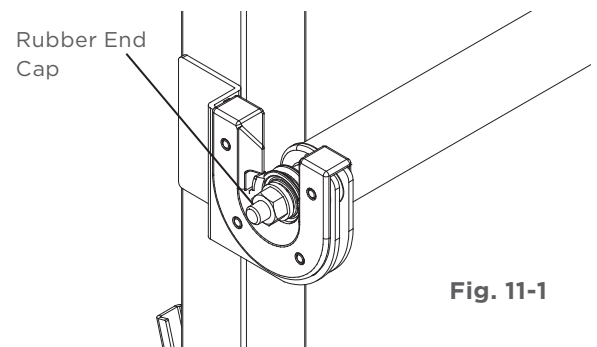

Fig. 11-1
11-1: Slide one (1) rubber end cap onto the end of each bolt sticking out of the pole ends, as shown in Fig. 11-1. If the poles are assembled properly there should be approximately $3/8$ "- $1/2$ " of metal threads showing beyond the ends of each pole.